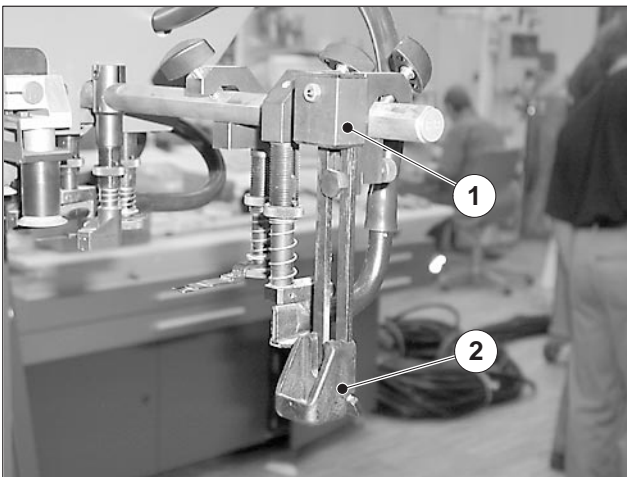

Fig. 39 Pile stop without steel weight
In normal position, steel weight (Fig. 39/1) and plastic weight (Fig. 39/2) of the pile stop rest on the pile with their dead weight. This setting is suitable for heavy papers and cardboard.
In this position, merely the plastic weight (Fig. 39/2) rests on the pile. The steel weight is locked in its upper position.
1. Push the steel weight (Fig. 39/1) up and press it – against the resistance of the thrust piece into the upper park position.